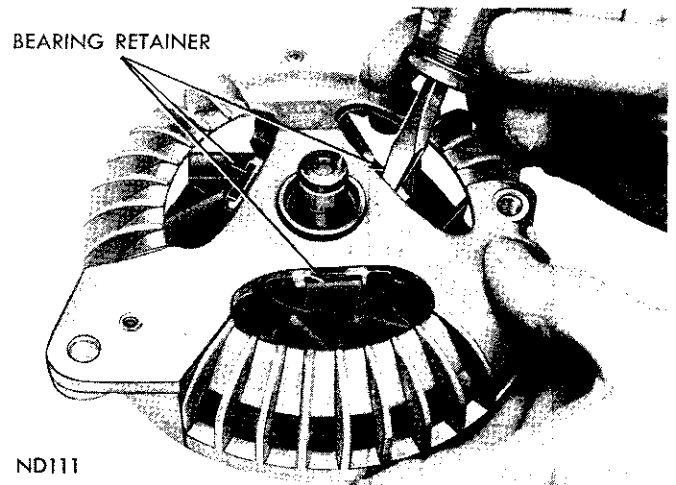

Fig. 18—Disengaging Bearing Retainer from End Shield
(7) Pry drive end bearing spring retainer from end shield with a screwdriver (Fig. 18).
(8) Support end shield and tap rotor shaft with a plastic hammer to separate rotor from end shield. The